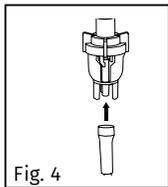

Fig. 4
6. Connect the air tube with nebulizer bottle (Figure 4).